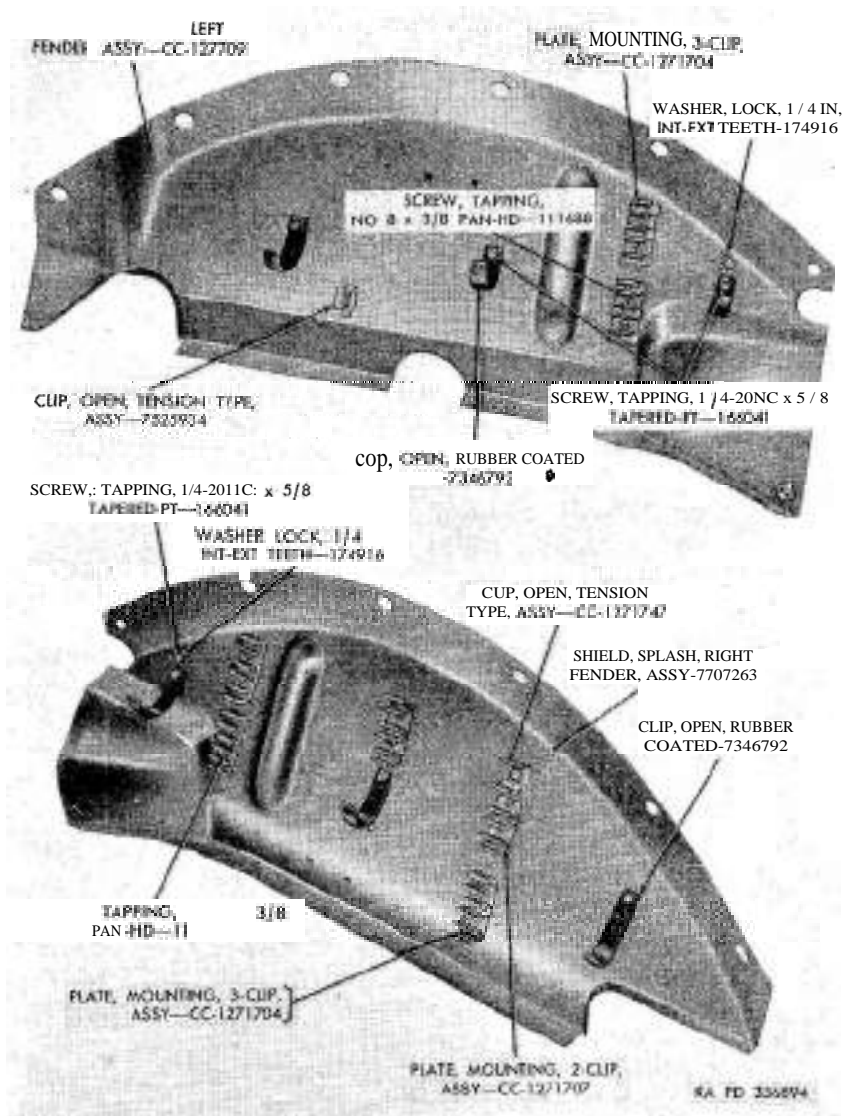

Figure 221. Right and left fender splash shield assemblies.
d. Remove Parts from Right and Left Fender Splash Shield Assemblies (fig. 221). Remove six tapping screws and rubber coated open clips from right and left fender splash shield assemblies. Remove tapping screws, tension tube open clip assemblies, and clip mounting plate assemblies from splash shield assemblies.
- (3) Inspect each splash shield-to-fender rubber filler (GG), each fender-to-cowl filler (B), and rear splash shield-to-bracket antisqueak (BB) for deterioration. Fillers and antisqueak must be replaced (pars. 303c and 305a) if not in good condition.
- (4) Inspect each front fender front support (W) for broken welds, cracks, distortion, or corrosion. Cracks and broken welds can be repaired by welding, but supports must be replaced if they are distorted or damaged by corrosion.
- (5) Inspect each cable cover (KK) for corrosion, cracks, or distortion. ~~Cracks~~ can be repaired by welding but covers must be replaced if they are distorted or damaged by corrosion.
- (6) Inspect each front fender rear support for cracks, corrosion, or distortion. Cracks can be repaired by welding but supports must be replaced if they are distorted or damaged by corrosion.
c. Inspect Right and Left Fender Splash Shield Assemblies and Related Parts (fig. 221).
- (1) Inspect right and left fender splash shield assemblies for cracks, corrosion, or distortion. Cracks can be repaired by welding but splash shields must be replaced if they are distorted or damaged by corrosion.
- (2) Inspect rubber coated open clips for cracks or deterioration. Replace clips if either of these conditions exist.
- (3) Inspect tension-type open clip assemblies for cracks or distortion. Clips must be replaced if they are not in good condition.
- (4) Inspect clip mounting plate assemblies for cracks, distortion, or loose rivets. Replace clip mounting plates if any of these conditions exist.
- (2) If inspection (par. 304b) reveals that it is necessary to replace splash shield-to-fender rubber filler (GG) or rear splash shield-to-bracket antisqueak (BB), apply a coating of synthetic rubber cement (52-C-1556) on the rear surface across the top and around the lower opening of fender rear splash shield (EE). Also apply a coating of rubber cement on the new filler and new anti-squeak. Allow cement to dry for 10 minutes and install new filler and new antisqueak on each splash shield.
- (3) Position fender rear splash shield (EE) on each fender and install three fender rear splash shield lock washer screws (FF) in each splash shield. Tighten screws.
- (4) Position rubber coated open clips (D and F) on top of left front fender with large clip (F) toward front. Install two ~~1/4-20NC~~ x ~~5/8~~ tapered point tapping screws (E). Tighten screws.
- (5) Position front fender front support (W) (gusset plate reinforcement forward) on each fender and install three 7/16-inch plain washers (T), ~~7/16-20NF~~ x 1 cap screws (S) (heads up), 7/16-inch lock washers (AA), and ~~7/16-20NF~~ nuts (Z). Tighten nuts.
- (6) Insert cable of service headlight assembly (H) through opening in each fender and install cable split grommet (G). Position headlight assembly on each fender and install two 5/16-inch internal external teeth lock washers (JJ) and 5/16-24NF nuts (~~HH~~) on the two front cap screws (each side). Tighten nuts.
- (7) Insert cable of each marker light assembly (R) through opening in each fender. Position each marker light assembly on each fender and install one ~~5/8~~-inch internal-external-teeth lock washer and one ~~3/4-24NF~~ x ~~7/8~~ cap screw (J) through inside hole of marker light mounting bracket and fender (each side), followed by ~~3/8~~-inch internal-external-teeth lock washer (MM) and ~~3/4-24NF~~ nut (LL). Tighten nuts.
b. Install Parts on Right and Left Fender Splash Shield Assemblies (fig. 221).
- (1) Position three rubber coated open clips on right and left fender splash shield assemblies and install ~~1/4-20NC~~ x tapered point tapping screws. Tighten screws.
- (2) Position four 3-clip mounting ~~plate~~ assemblies on right
- (1) Position right and left fender splash shield assemblies (fig. 221) on truck. Install one $\frac{9}{16}$ -inch internal-external-teeth lock washer and $\frac{3}{8}$ -24NF x $\frac{3}{4}$ cap screw (each side) to attach lower forward corner of splash shields to radiator guard right and left side supports, but do not tighten screws.
- (1) Position ground cables (No. 91) to right and left fender splash shield assemblies and install a $\frac{1}{4}$ -inch internal-external-teeth lock washer and $\frac{1}{4}$ -20NC x $\frac{5}{8}$ tapered point tapping screw (fig. 221) (each side). Tighten screws.
- (2) Connect all cables (numbers on identifying tags must correspond on each pair of cables). Insert cables in rubber coated open clips and bend clips over cables. Insert connector shells in tension-type open clip assemblies.